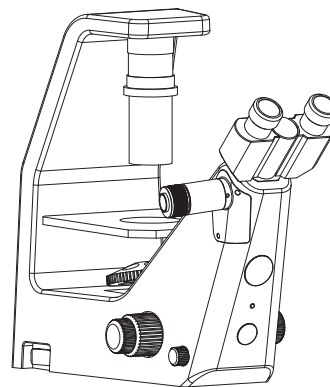

Figure 8
- 3) Fix the 1X optical interface on the microscope with a 2.5mm Allen key and manufacturer's special supply screws, the position and direction are shown in Figure 8;